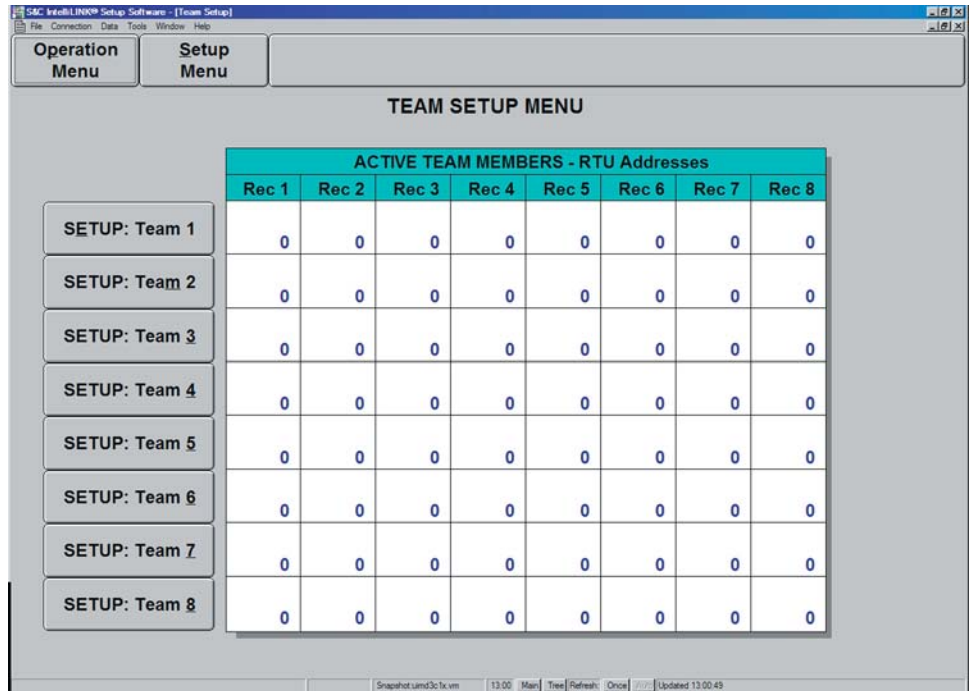

Figure 20. Team Setup Menu, where you select the team to be configured.
- From the PRESENT CONDITIONS screen click the Team Menu button, click the Setup Menu button, and click the Team Setup button to display the Team Setup Menu (Figure 20). Enter the correct values for the Interface Module.